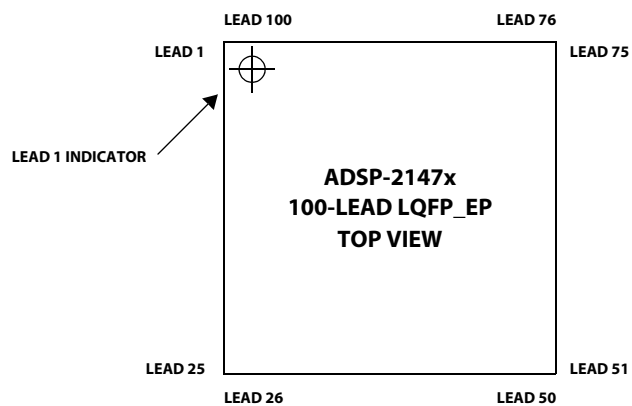
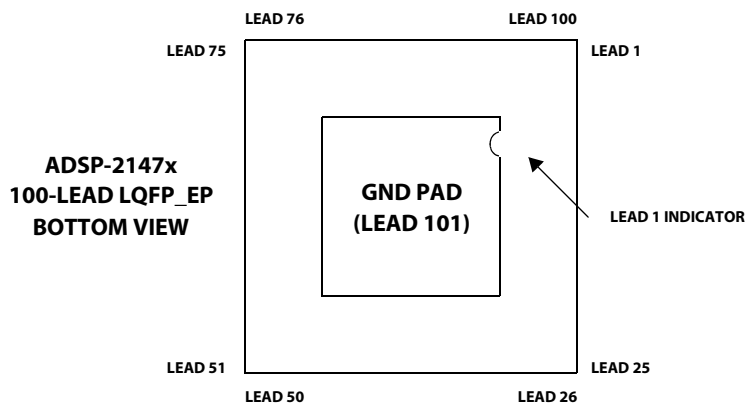

Figure 55. 100-Lead LQFP_EP Lead Configuration (Top View)
Figure 56. 100-Lead LQFP_EP Lead Configuration (Bottom View)
* Lead no. 89 is the GND supply (see Figure 55 and Figure 56) for the processor; this pad must be **robustly** connect to GND in order for the processor to function.
Figure 55 shows the top view of the 88-lead LFCSP_VQ pin configuration. Figure 56 shows the bottom view.
* Lead no. 101 is the GND supply (see Figure 55 and Figure 56) for the processor; this pad must be **robustly** connected to GND.
Figure 55 shows the top view configuration of the 100-lead LQFP_EP package. Figure 56 shows the bottom view configuration of the 100-lead LQFP_EP package.